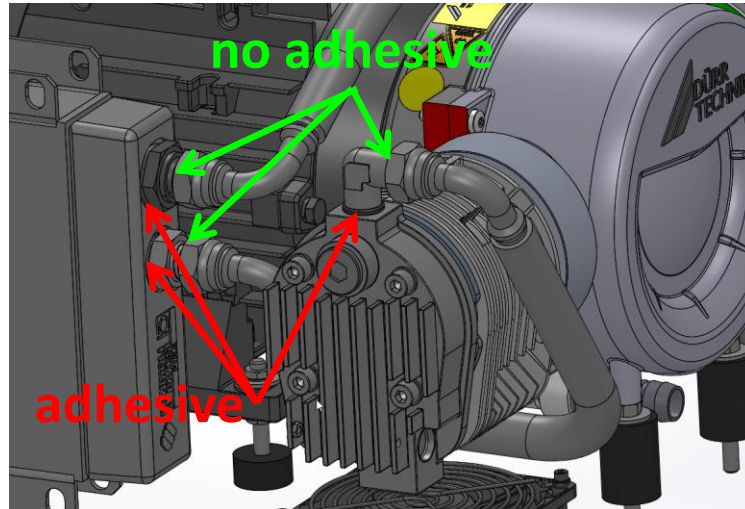

Figure 1: Which threads should be sealed with adhesives
- We recommend gluing the connectors to the cylinder heads (G ½") and the radiator (G ¾" and M22x1.5) with a temperature-resistant thread adhesive. Make sure that only the thread that is screwed into the cylinder head and radiator is glued, but not the thread for the pressure hose fitting (side with the 60° cone inside), see Figure 1 and next point. The thread adhesive should have a temperature resistance up to 250°C.